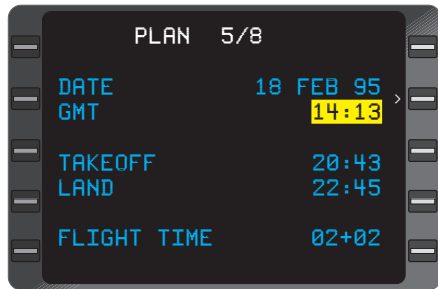

Figure 3-170
*NOTE: If GPS time is available, **GMT** is automatically updated to GPS time. (Figure 3-170)*
The **GMT** at weight-off-wheels plus 10 seconds. (Figure 3-170)
The **GMT** at weight-on-wheels. This field is not displayed until 10 seconds after weight-on-wheels occurs. (Figure 3-170)
The elapsed flight time is displayed in hours and minutes. (Figure 3-170)